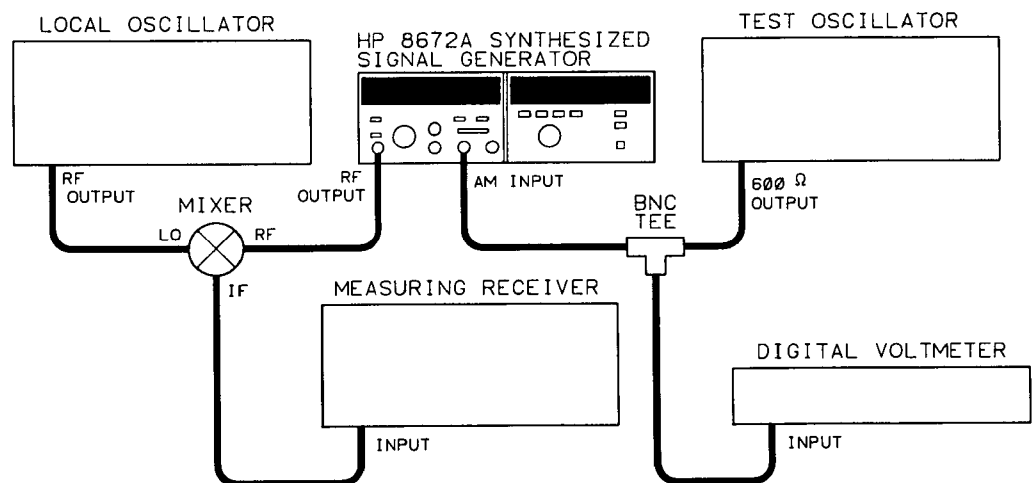

Figure 4-19. External AM Accuracy and Meter Accuracy Test Setup
1. Connect the equipment as shown in Figure 4-19.